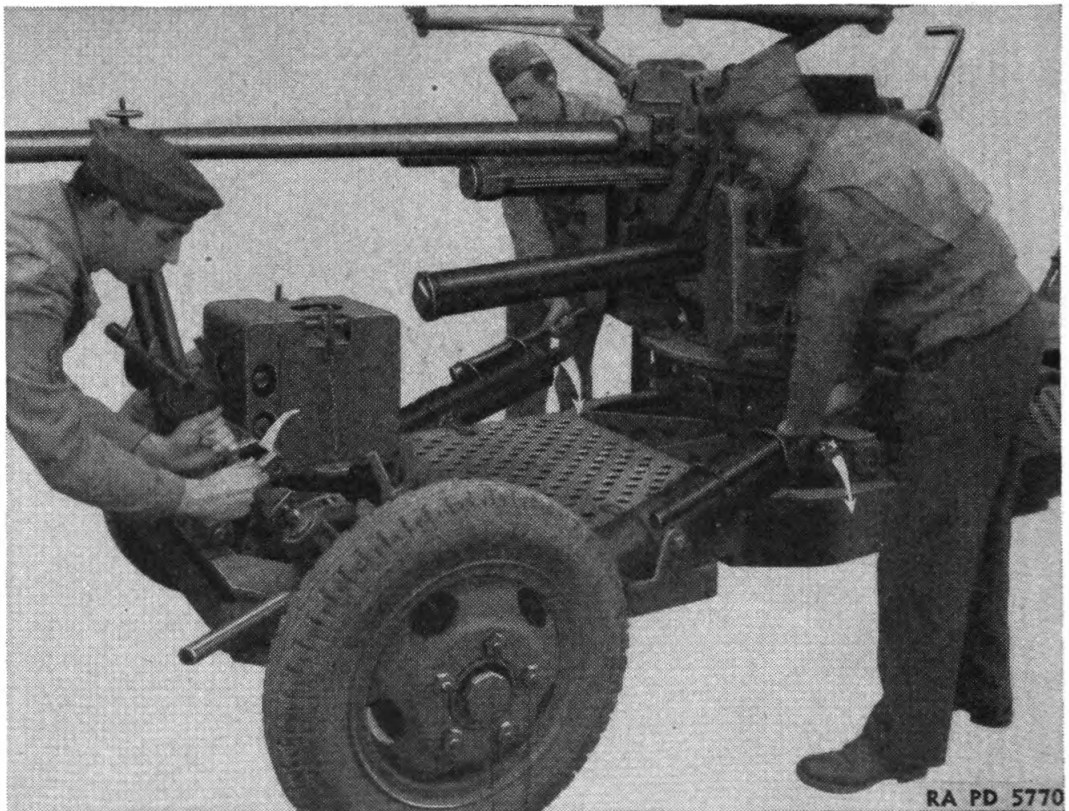

FIGURE 35.—Lowering rear of carriage to firing position.
(5) Lower the rear end of the chassis in the same manner as above (fig. 35).